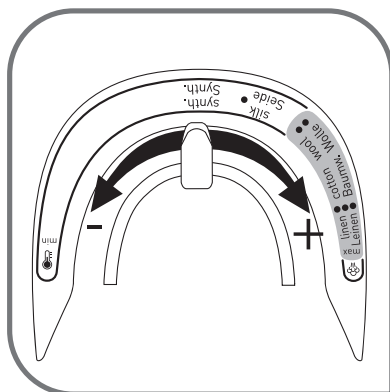

fig.4
- Adjust the thermostat control – fig.4, by referring to the table below.